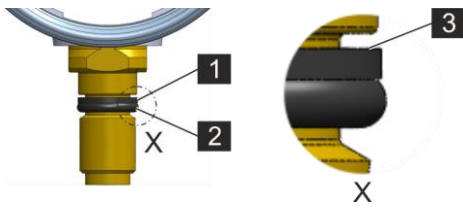

Fig. 187: O-ring and supporting ring
3. ➤ Check the O-ring (Fig. 187/2) and support ring (Fig. 187/1) of the contact pressure gauge for deformation and damage and replace if necessary (always as a pair). The flat side of the support ring (Fig. 187/3) must be turned away from the O-ring.